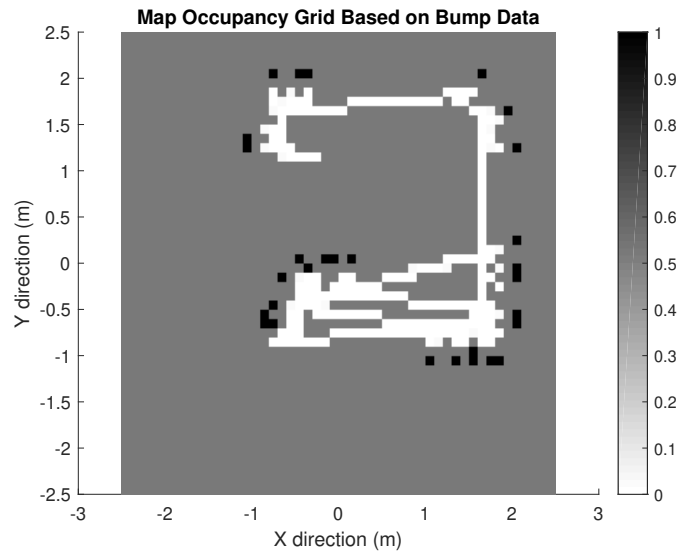

Figure 7: Bump Occupancy Grid at Timestep 1,[50x50]
6. Please see Figures 7, 8, and 9 for plots! With the 50x50 plot, I notice a great amount of space that appears unknown due to the robot not driving over each grid. Although each bump location is more precise (less variance), this accuracy leaves many gaps in the wall as the robot was unable to hit every single grid. This map would need to be processed with a script that could assume walls in between very close wall-occupied grids. Otherwise, the 50x50 would need the robot to bump into the walls even more times to get a full description of the map.